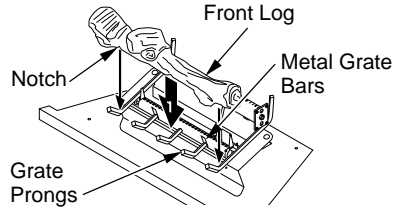

Figure 24 - Installing Front Log
1. Place front log on top of the grate. Make sure the notches in the bottom of the log fit over the grate prongs (see Figure 24). Push back of log flush with metal grate bars.